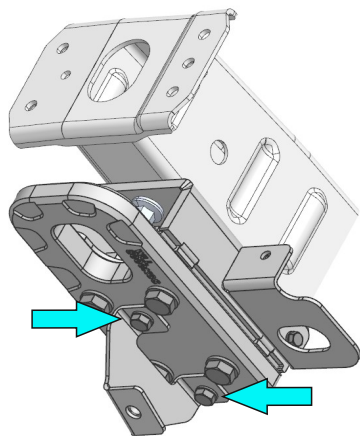

Fig.9
9. Install right bash plate bracket (item N) on recovery point (item H) **for Ranger Raptor**. Fix using bolts M8x20, washers 8 (item B, E) (fig.9).